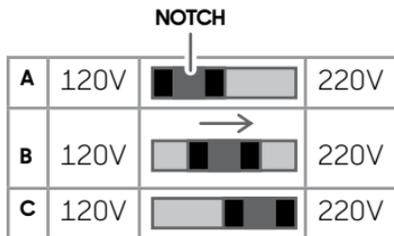

FIGURE 1
1. Locate Voltage Selector, recessed inside slot at rear of Main Body. Note the open notch in middle of Voltage Selector (Figure 1-A).
3. Carefully insert tip of pen into white notch. Slide Voltage Selector to the right, towards 220V label (Figure 1-B).
IMPORTANT: Be sure that Voltage Selector is moved as far to the right as possible for voltage setting to take effect correctly (Figure 1-C).